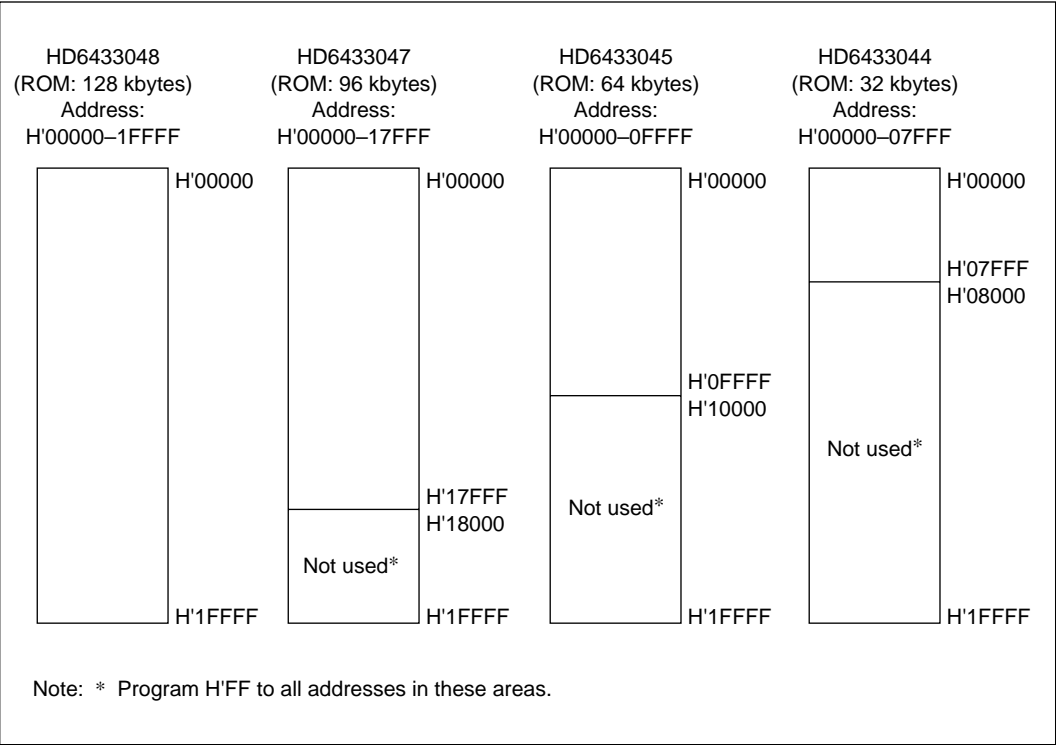

Figure 18-33 Masked ROM Addresses and Data
- Fill all the unused addresses with H'FF as shown in figure 18-33 to make the ROM data size 128 kbytes for all H8/3048 Series chips, which incorporate different sizes of ROM. This applies to ordering through an EPROM and through electrical data transfer.